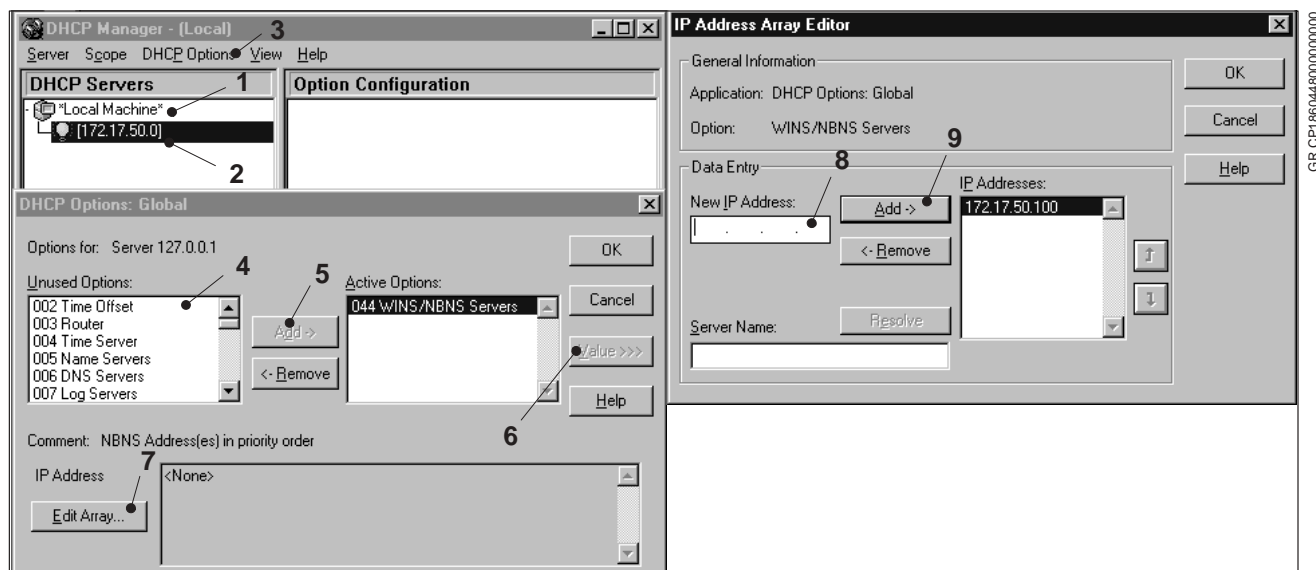

Fig. 11 DHCP Options, WINS/NBNS
- 37 Click **DHCP Options>Global** in the menu bar (Fig. 11/3).
- 38 In the window "DHCP Options: Global" click on the option **044 WINS/NBNS Servers** (Fig. 11/4).
- 39 Click on the **Add** button (Fig. 11/5).
- 41 Click on the **Value** button (Fig. 11/6).
- 42 Click on the **Edit Array** button (Fig. 11/7).
- 43 Enter **172.17.50.100** (Fig. 11/8) in the line New IP Address.
- 44 Click on the **Add** button (Fig. 11/9).